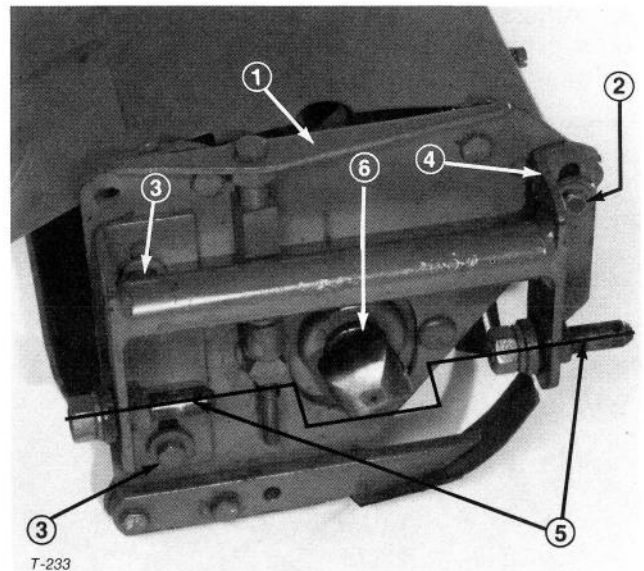

Figure 28
cutting performance will be deteriorated (Fig. 28). Also, due to normal wear of the reel and bed-knife, the drive balls on reel shafts of the front units will drop below the centerline of the pivots. This affects pivot action of the balls and causes excessive wear on the drive balls. If this condition is allowed to continue, the reel drive shaft will come into contact with the intermediate frame. Periodically check for this condition and readjust as follows:
A. Loosen nut at front of unit and capscrews at rear securing pivot frame (Fig. 28).
B. Adjust pivot frame until flange is parallel, placing unit at proper attitude (Fig. 28).
C. Tighten capscrews and nut to secure adjustment (Fig. 28).
B. Loosen nut and capscrews securing pivot frame and adjust pivot frame until pivot pins centerlines are aligned with center of drive ball (Fig. 28).